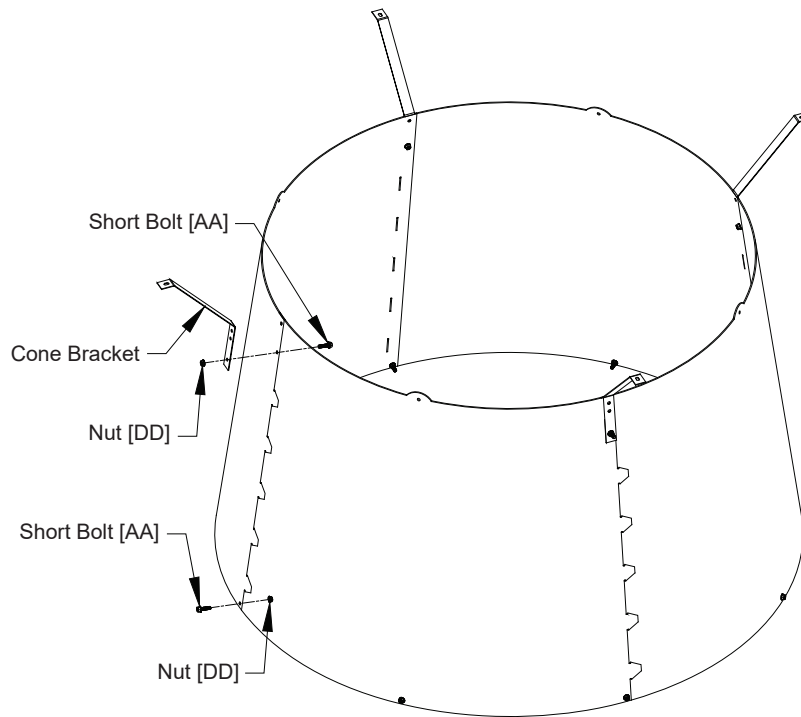

Figure 19B
Stand the cone sections on end and curl ends around to form cone with the Cone Support Brackets on outside and tabs on inside. Then insert the remaining tabs into slots so tabs are inside cone and fasten final joint using (1) Short Bolt [AA] and Nut [DD], with the nut on the inside of the cone. At the inner pair of holes attach (1) Cone Bracket to the inner hole using (1) Short Bolt [AA] and Nut [DD] with the bolt head on the outside of the cone. See Figure 19B.